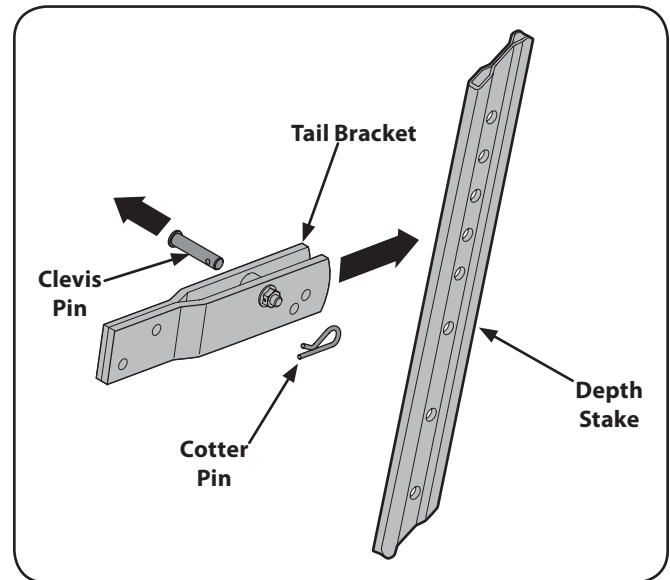

Figure 3-5
- Disassemble the depth gauge assembly as seen in Fig. 3-5. Retain the pin and clip for later reassembly.